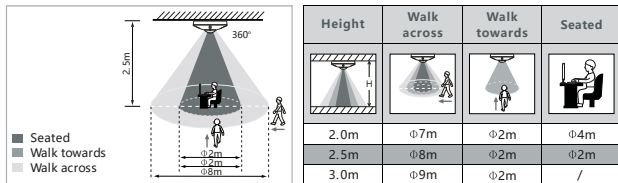

FIG.2
- KDP3 can be installed at the height of 2 - 3m, it's recommended to install it at the height of 2.5m to gain the optimal detection pattern, the detection range can reach up to the diameter of 8m and 360° detection angle (See FIG.2).